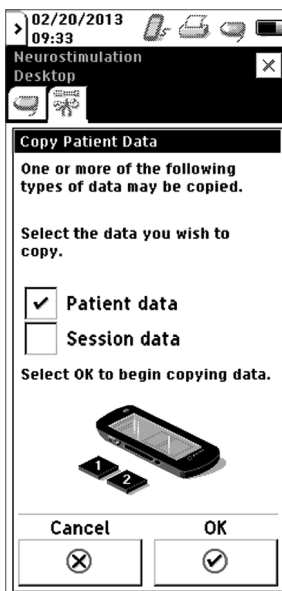

Figure 14. Copy patient data screen.
4. Select the checkbox for the type of data to be copied (Figure 14).